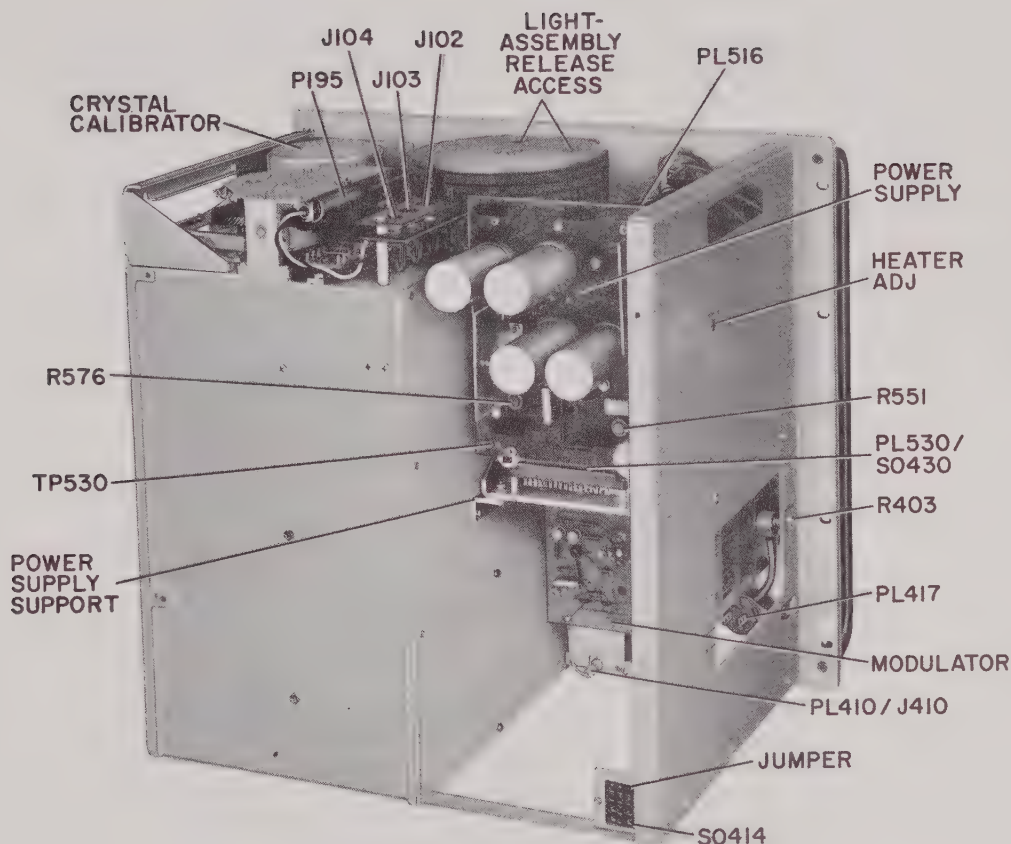

Figure 5-5. Interior rear view with cabinet removed.
Figure 5-5 illustrates the 1026 removed from the cabinet. Prior to removing the 1026 from the cabinet, disconnect the power cord at the rear and all external connections on the front panel.
b. Remove the two 10-32 screws on the left shield cover, which secure the bracket that joins the left side pan to the RF Assembly. Remove, from the main power-supply support bracket, the pair of screws that secures the small angle bracket extending over to the shield cover of the RF Assembly. See Figure 5-5.